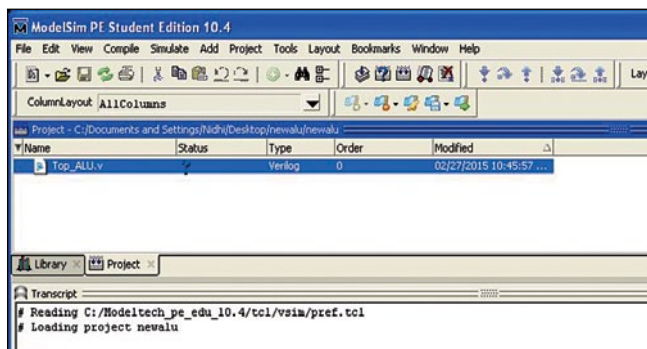

Fig. 6: Workspace window
6. On the workspace section of the main window (Fig. 6), double-click on the file you have just created